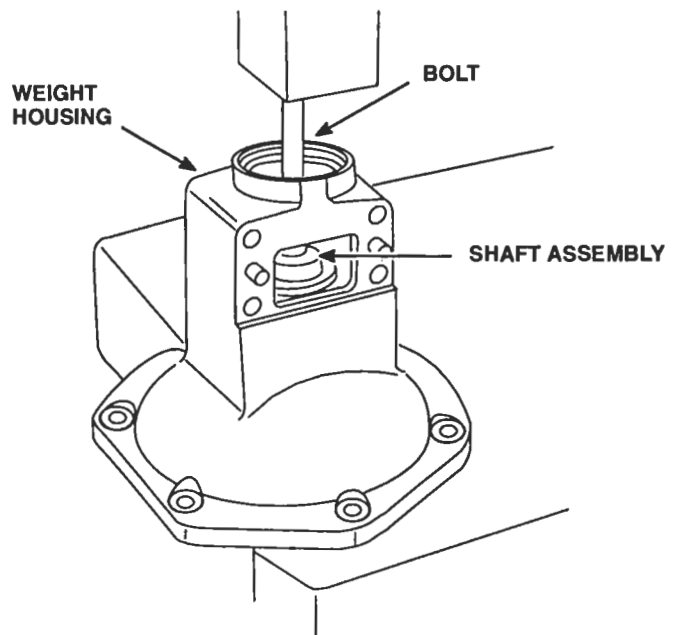

Figure 8. Removing Governor Weight and Shaft Assembly
- c. Thread a 5/16–24 x 3 inch bolt into the tapped end of the weight shaft. Support the weight housing on the bed of the press (Figure 8.) and press the shaft from the bearing.